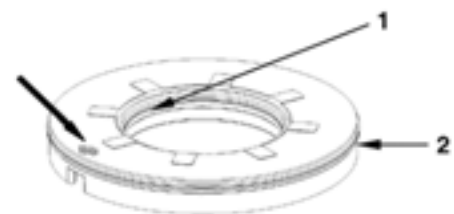

Figure 232
6. Place both O-rings (1 and 2, Figure 232) into the piston grooves and oil them.